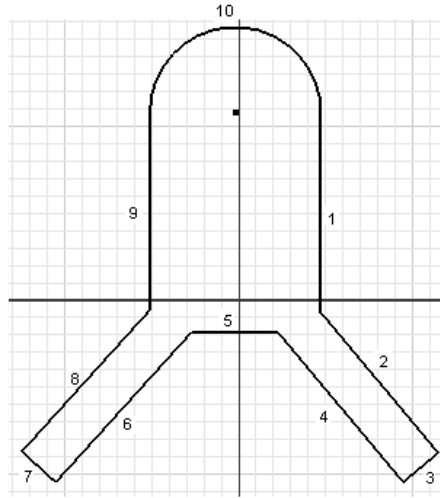

Figure 3-65 Initial sketch with the geometries numbered
1. Choose the **Line** tool from the **Create** panel of the **Sketch** tab to draw the outer loop, as shown in Figure 3-65. As mentioned earlier, you should draw the inner loop after drawing and dimensioning the outer loop. This is because once the outer loop is dimensioned, you can draw the inner loop by taking the reference of the outer loop.
You can draw the arc while the **Line** tool is active. You can also use the temporary tracking option to draw this sketch. For your reference, the geometries in the sketch are numbered, see Figure 3-65.